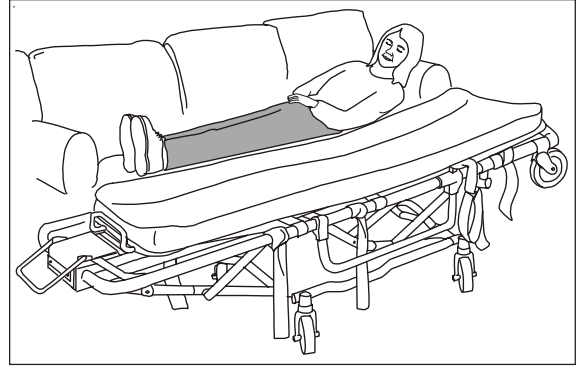

Figure 17 - Preparing to Transfer the Patient
2. Place cot beside patient and raise or lower cot as near as possible to patient's level (Figure 17).